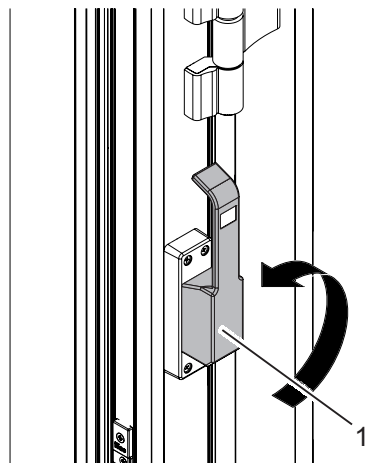

Fig. 27: Adjusting the sliding panel function
1. Slowly move the door lock bar (Fig. 27/1) upward into the sliding mode.